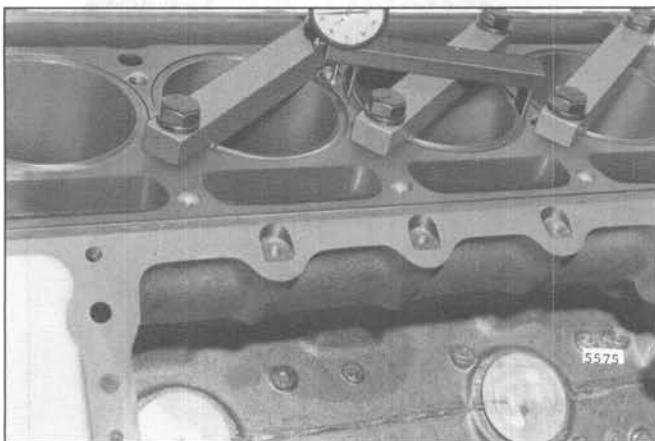

Fig. 7 - Checking Distance of Liner Flange Below Top Face of Block using Clamp J 24565-02 and Gage J 24898
- Clamp the liner in place with hold-down clamp J 24565-02 as illustrated in Fig. 7 and tighten the two (2) bolts to 50 lb-ft (68 N•m) torque.
- Measure the distance from the top of the liner to the top of the block with a dial indicator (Fig. 7). The